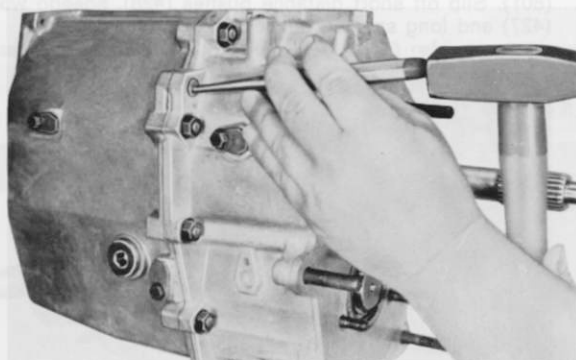

Fig. 11
4. Push back the 2 dowels (106) (Fig. 11).